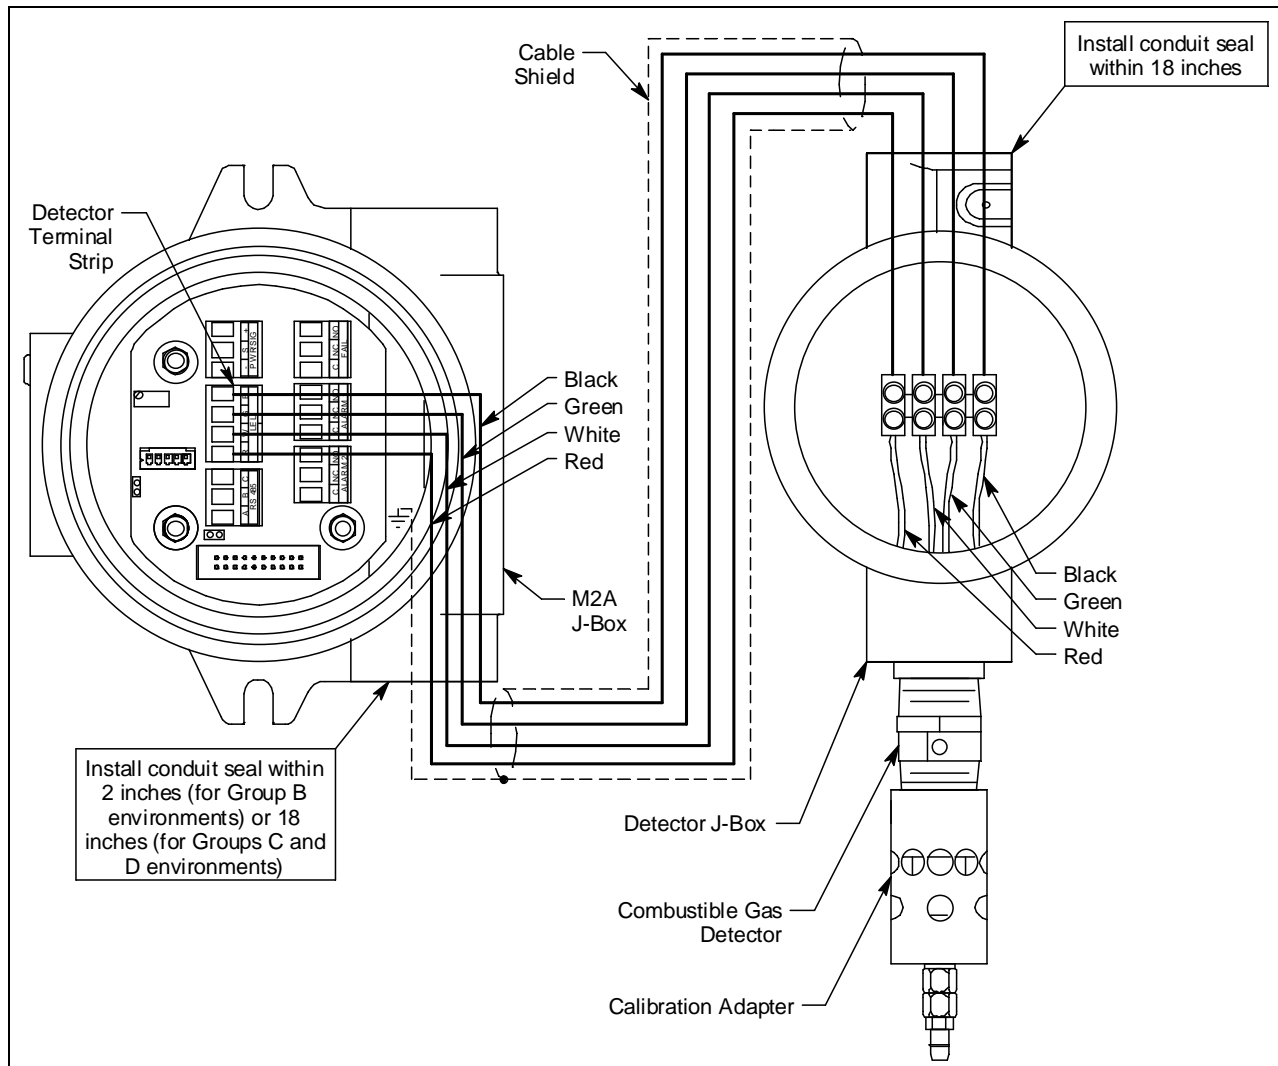

Figure 7: Wiring the Detector to the M2A
7. To maintain the explosion proof classification of the junction boxes, conduit seals must be installed as shown in Figure 7. Adhere to your local electrical code when installing the conduit seal.
13. Pull out the detector terminal strip and connect the four wires to the terminal strip as follows (see Figure 7).
1. To maintain the explosion proof classification of the M2A junction box, a conduit seal must be installed within 2 inches (for Group B environments) or 18 inches (for Groups C and D environments) of the M2A's left conduit hub, in addition to the conduit seals shown in Figure 7. Adhere to your local electrical code when installing the conduit seal.